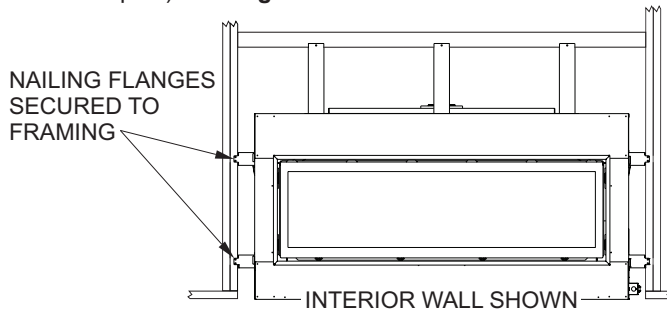

Figure 23
- Secure fireplace to framing with nailing flanges. Set the depth to suit facing material (flush, 1/2 inch, or 3/4 inch set back depths). **See Figures 23 and 24.**